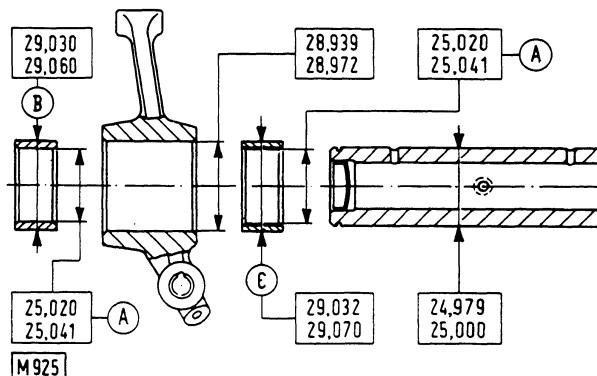

Fig. 24 - Rocker arm, bushing and shaft dimensions.
- Only bronze bushings (B, fig. 24) are available as spares, whereas the bushings originally fitted in production may consist of babbitt metal-lined steel shells (C).